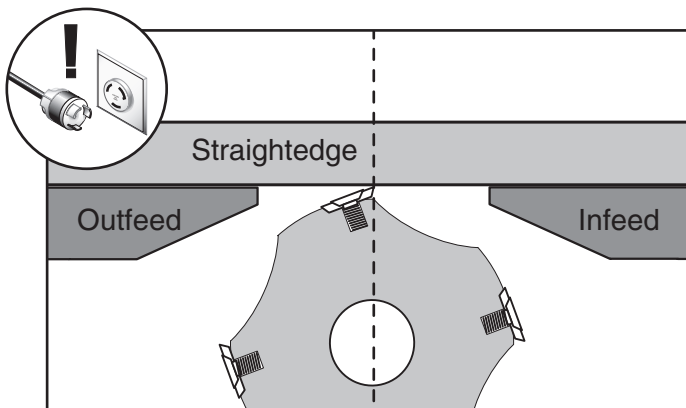

Figure 72. Infeed table even with outfeed table.
3. Use straightedge to help adjust infeed table exactly even with outfeed table, as shown in **Figure 72**.